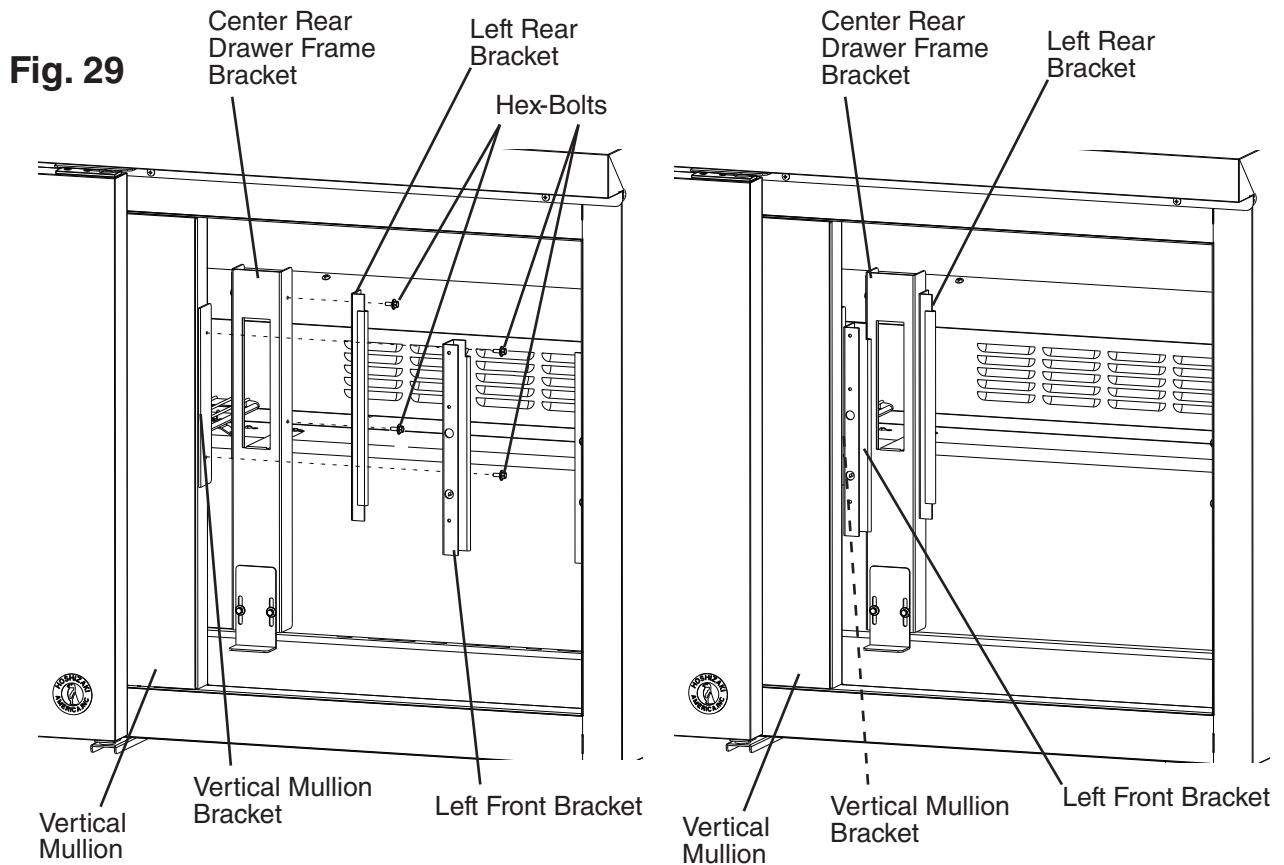

Fig. 29
21) Place the left front bracket in place on the vertical mullion bracket with the hex-bolts removed in step 4. See Fig. 29. Leave loose, do not tighten at this time.